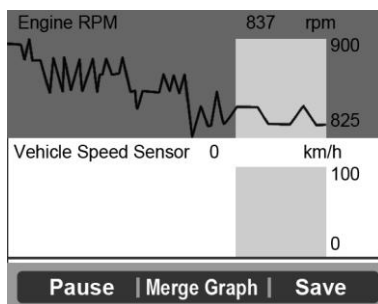

Figure 5.14
- If the “**Merge Graph**” on the bottom appears when a PID is selected to view, merged graph information is available. (Figure 5.14)